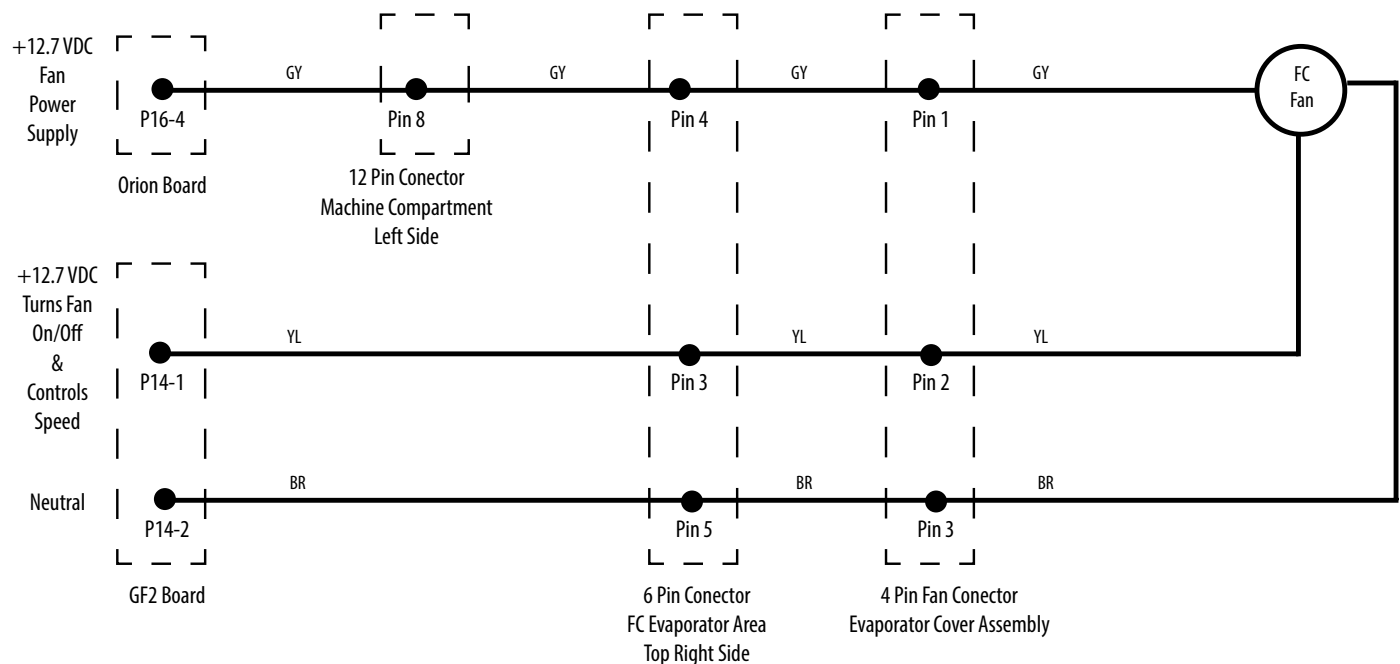

FIGURE 15: FC Fan Electrical Diagram
- Check all wiring connectors tight (FIGURE 15).